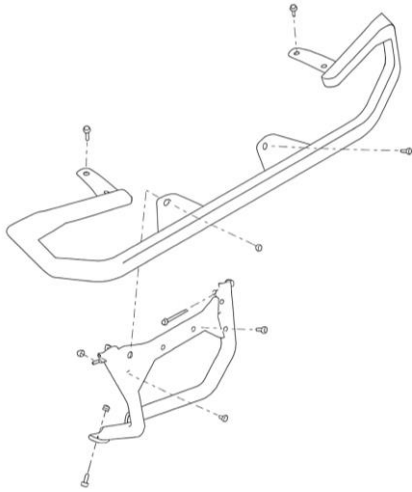

Figure 1
1. Remove the upper and lower rear bumpers (if applicable) to access the stock muffler. **Refer to Figure 1.**